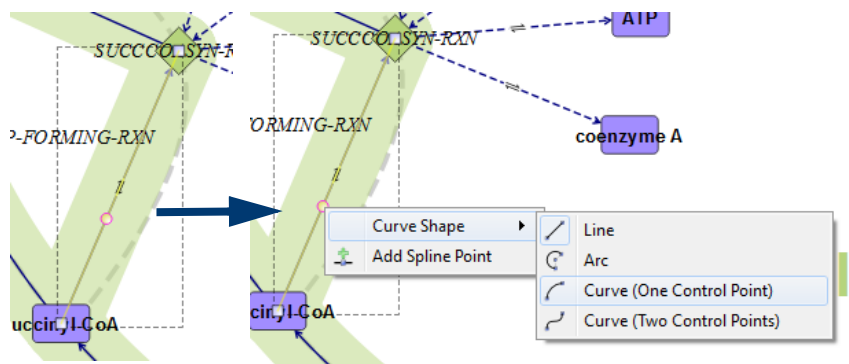

Figure 95 Select a line edge to convert to curve edge
- b Click the edge between the succinyl-CoA and SUCCCOASYN-RXN nodes a second time to enable changing the edge geometry. A red circle appears on the edge (Figure 95).
- c Right-click the red circle (control point) on the edge, then click **Curve Shape > Curve (One Control Point)** to change the edge line into a curve (Figure 95 on page 94).